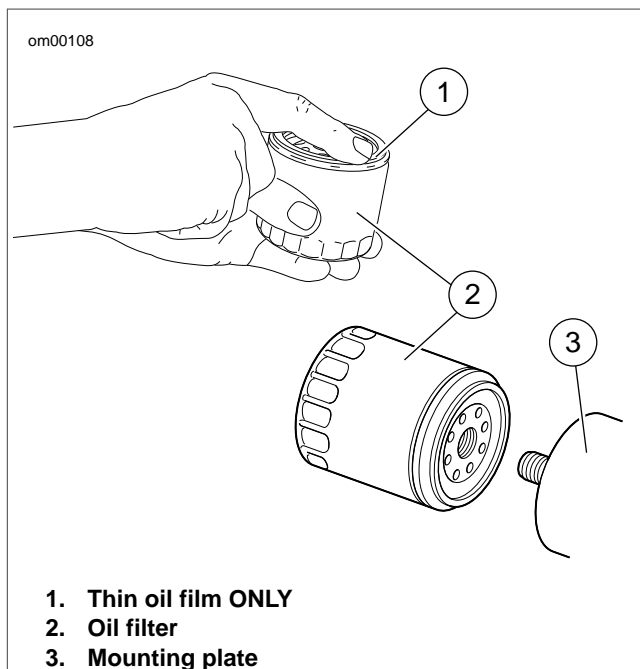

Figure 1-7. Applying Thin Oil Film
3. See Figure 1-7. Coat oil filter gasket with clean Harley-Davidson 20W-50 engine oil.